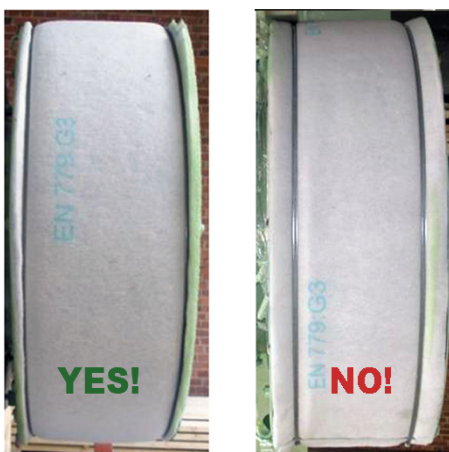

Figure 5 Assembled air filter air mat
9. Ensure the filter mat (544.201) covers the perforated plate (544.034) completely and the hose clamps (544.202) are positioned correctly (see figure 5)